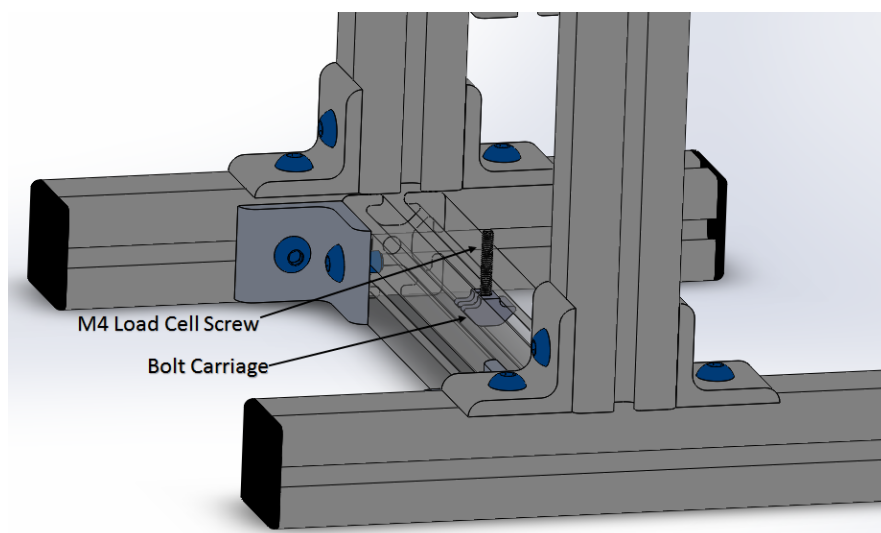

Figure 2. Detail of Bolt Carriage and M4 Load Cell Screw
a) Start by making the base with an H-shape, using a 25 cm tube horizontally and (2) 25 cm tubes as the vertical ends.
1. Slide the M4 Load Cell Screw (3jj) into the Bolt Carriage (3ii) and slide this into the top groove on the horizontal tube, placing it near the center for later use (Figure 2).